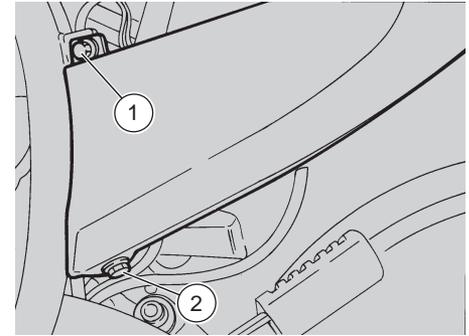

Fig. 46
- ◆ Unscrew and remove the two screws (1-2-Fig. 46).